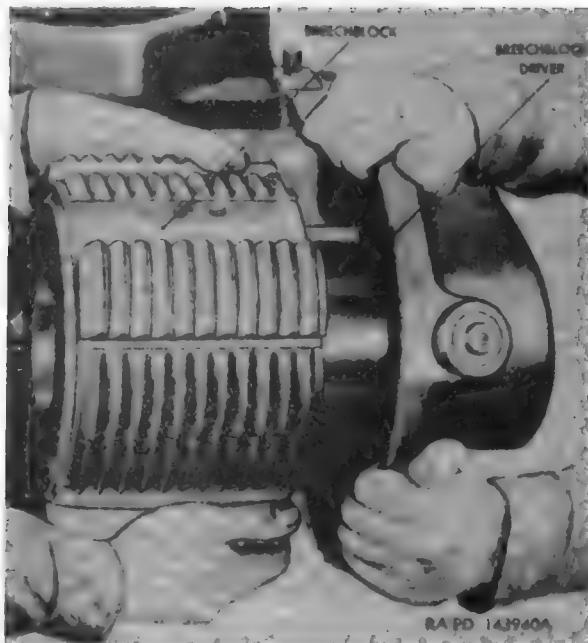

Figure 112. Removing or installing breechblock.
c. Remove Breechblock. Slide the breechblock forward off the breechblock driver (fig. 112). Rotate the breechblock by slightly manipulating the breech operating handle, if necessary, to free the breechblock crankshaft roller (fig. 108) from the breechblock. The breechblock driver should be held while the breechblock is being removed. To facilitate handling the breechblock during removal, insert cleaning staff, axe handle, or similar material through the bore of the breechblock.
g. Install Breechblock. Start the breechblock onto the carrier (fig. 112), alining the breechblock so that the crosshead can be guided into its grove (fig. 102) in the breechblock while, at the same time, holding breechblock drive in such a position that the large lug on the breechblock (which contains the cross head groove) will enter the cut-away portion at the flange of the driver (fig. 103). With the crosshead entered into its groove, slide the breechblock rearward onto the driver. Lift the breech operating handle to its upright position.